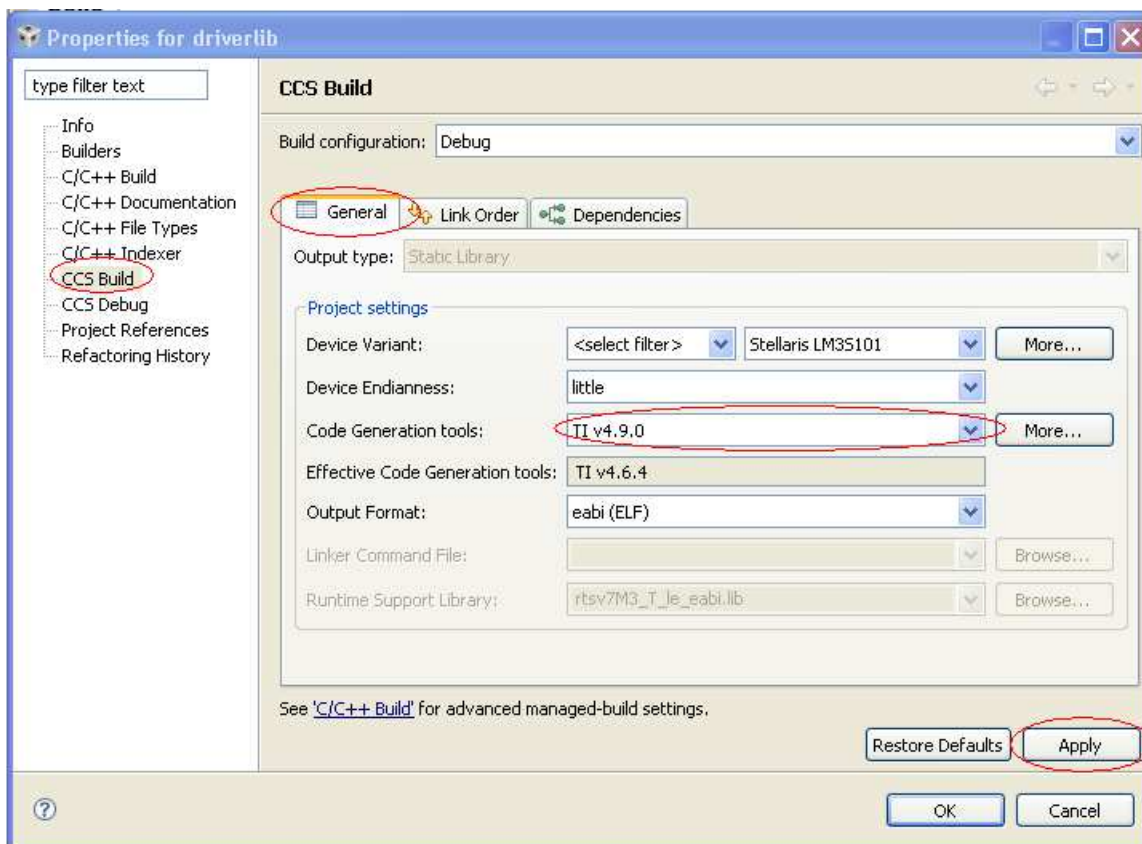

Figure 23. Properties for Driver Lib
3. Go to Project menu → select Properties to open Project properties window as shown in Figure 23.